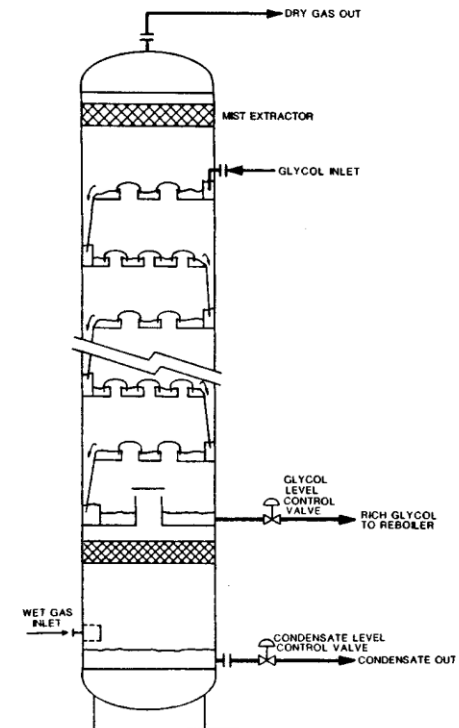

Figure 8-5. The bottom of the contactor is often used as a vertical inlet scrubber.
- Figure 8-5. Bottom of the contactor